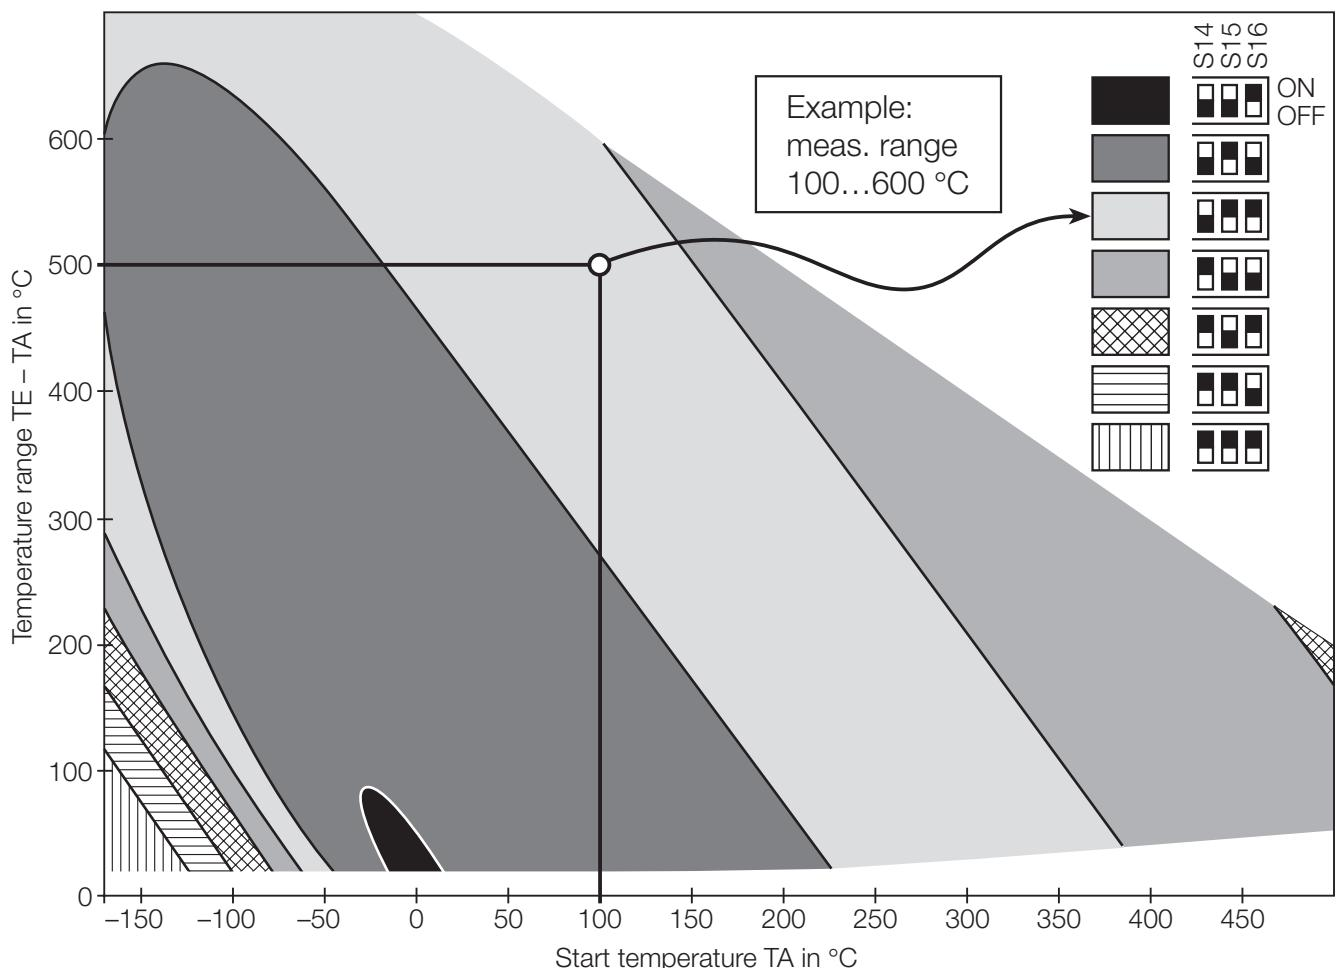

Fig. 9. Switch positions (S14...S16) for linearisation.
A switch combination has to be set to linearise the range that depends on the minimum value of the measuring range (TA) and the temperature range (TE - TA). Fig. 9 shows how the switch positions are determined for the example of a measuring range of 100...600 °C. The correct switch positions for this example are "OFF-ON-ON".